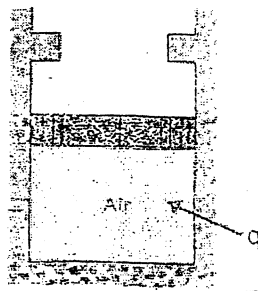

Figure P.9
9. Air (2 kg) is contained in a vertical frictionless piston-cylinder device shown in *Figure P.9*. The mass of the piston is such that the air has a pressure and temperature of 10.0 MPa and 75.5°C. There is a heat transfer to the cylinder until the piston reaches some stops, at which point the total volume is 0.04 m3. There is an additional heat transfer to the air until the pressure is 15.0 MPa. Determine the total heat transfer and the total work, and show the process on P-v and T-v diagrams. [ $R = 287 \text{ J/kg.K}$ ,  $c_v = 718 \text{ J/kg.K}$ ] [10]